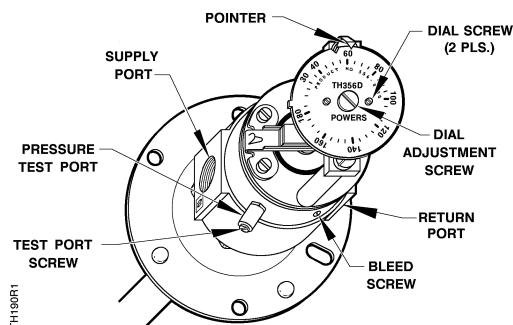

Figure 8. LIMITEM® Cover Removed.
- For duct mounting where access to the coil is limited, see Figure 8. Use flange Number 808-412 and a length of 3/8-inch (9.5 mm) OD hard copper tube to expose the bulb to the air leaving the coil within the duct.
2. With a screwdriver, turn dial adjustment screw to change to the desired setpoint. See Figure 8.
3. If a permanent return air gauge is not installed, use the pressure test port. See Figure 8 for its location.
1. Loosen the dial screws. See Figure 8.